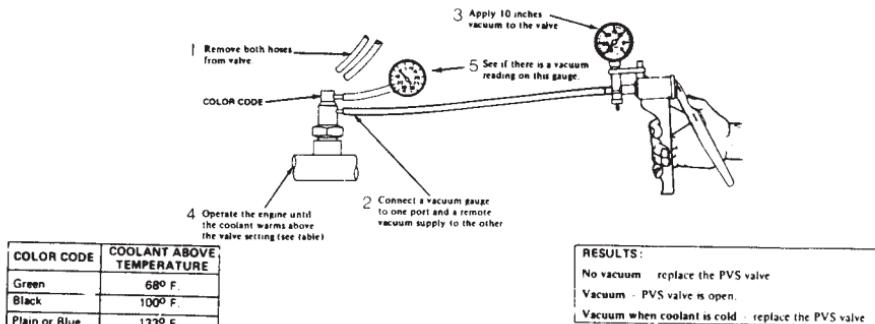

FIGURE 13: Testing The Two-Port PVS
- Apply 10" Hg of vacuum to the bottom port of the valve with your vacuum pump and measure the results with a second vacuum gauge as shown in the accompanying illustration (FIGURE 13).